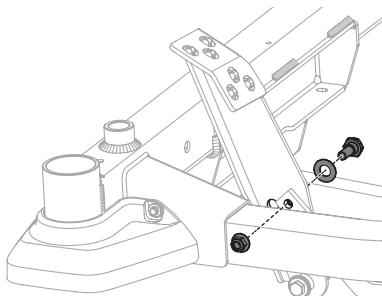

Figure 33
2. Remove the hex bolt, washer and hex nut near the center of the pedal assembly (Figure 33).
4. Re-install the hardware previously removed and torque the nut to 28-35 ft-lbs (38-47 N-m) (Figure 33).